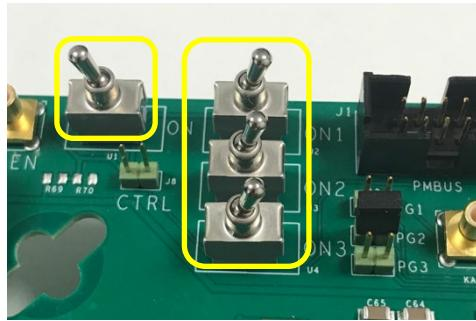

Figure 8
**Enable switch 2** is used for all three modules. By using **Module Enable selector switches 3** it's possible to select which modules operating in parallel (Figure 8).